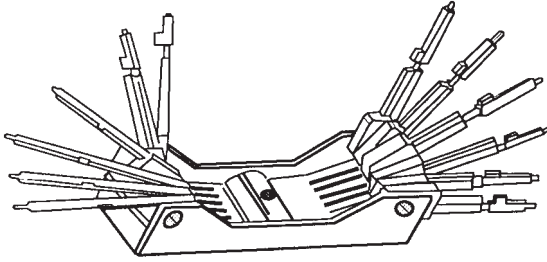

Figure 2.35 Safe change keys are needed to change the combinations of certain types of safes. (*Keedex Mfg.*)
- Change keys, assorted (Fig. 2.35)